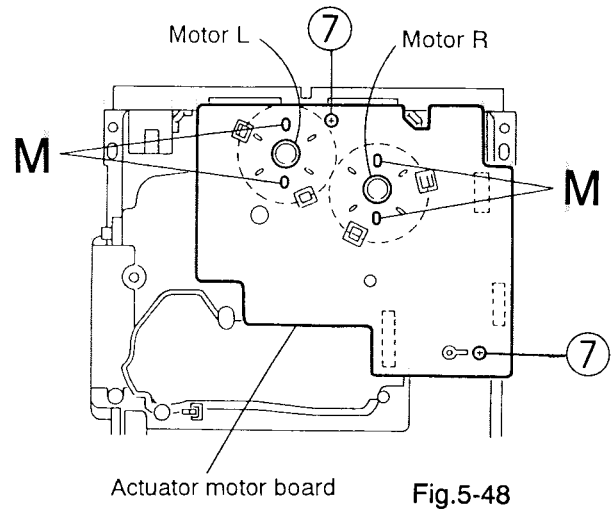

Fig.5-48
(See Figs. 5-48 and 5-49)
1. Absorb the four soldered positions "M" of the right and left motors with a soldering absorber (See Fig. 5-48).
2. Remove the two screws ⑦ retaining the actuator motor board (See Fig. 5-48).